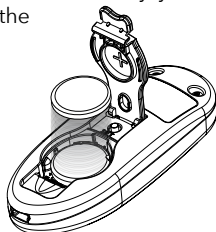

Figure 8
Open the battery cover located on the backside of the meter. Insert one (1) 3 Volt CR2032 lithium battery. The meter should beep, turn on and enter Setting Mode. See Figure 8.